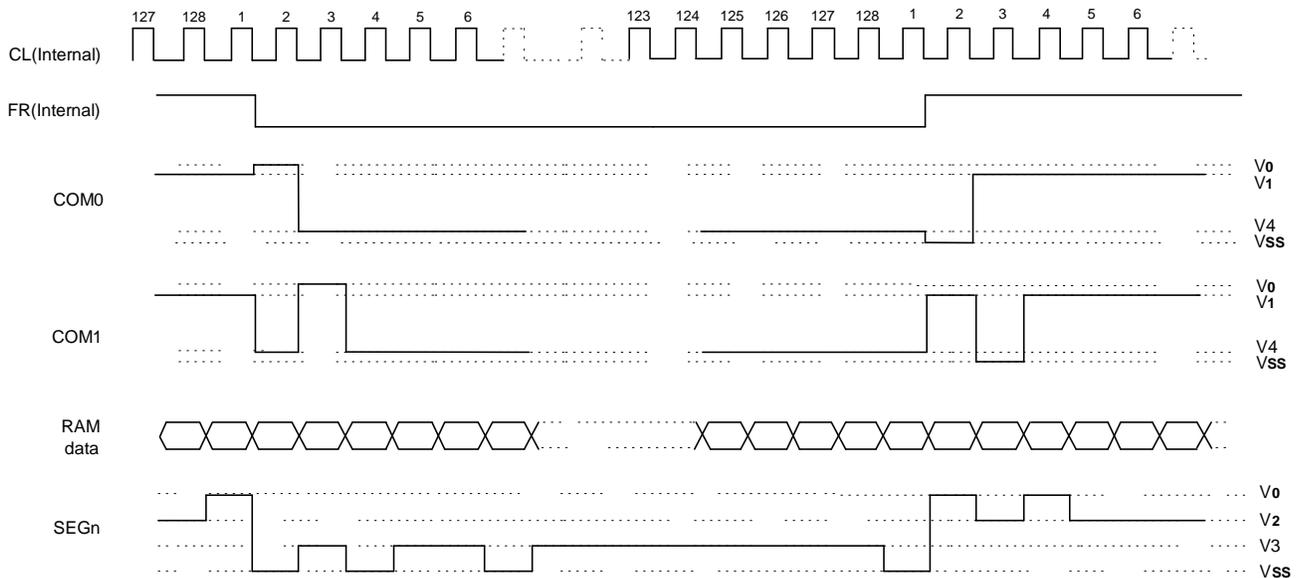

Figure 7. 2-frame AC Driving Waveform (Duty Ratio = 1/128)
This circuit generates some signals to be used for displaying LCD. The display clock, CL(internal), generated by Oscillation clock, generates the clock for the line counter and the signal for the display data latch. The line address of on-chip RAM is generated in synchronization with the display clock. The display data, which is read to the LCD driver, is completely independent of the access to the display data RAM from the microprocessor. The display clock generates an LCD AC signal(M) which enables the LCD driver to make a AC drive waveform, and also generates an internal common timing signal and start signal to the common driver. The frame signal or the line signal changes the M by setting internal instruction. Driving waveform and internal timing signal are shown in Figure 7.